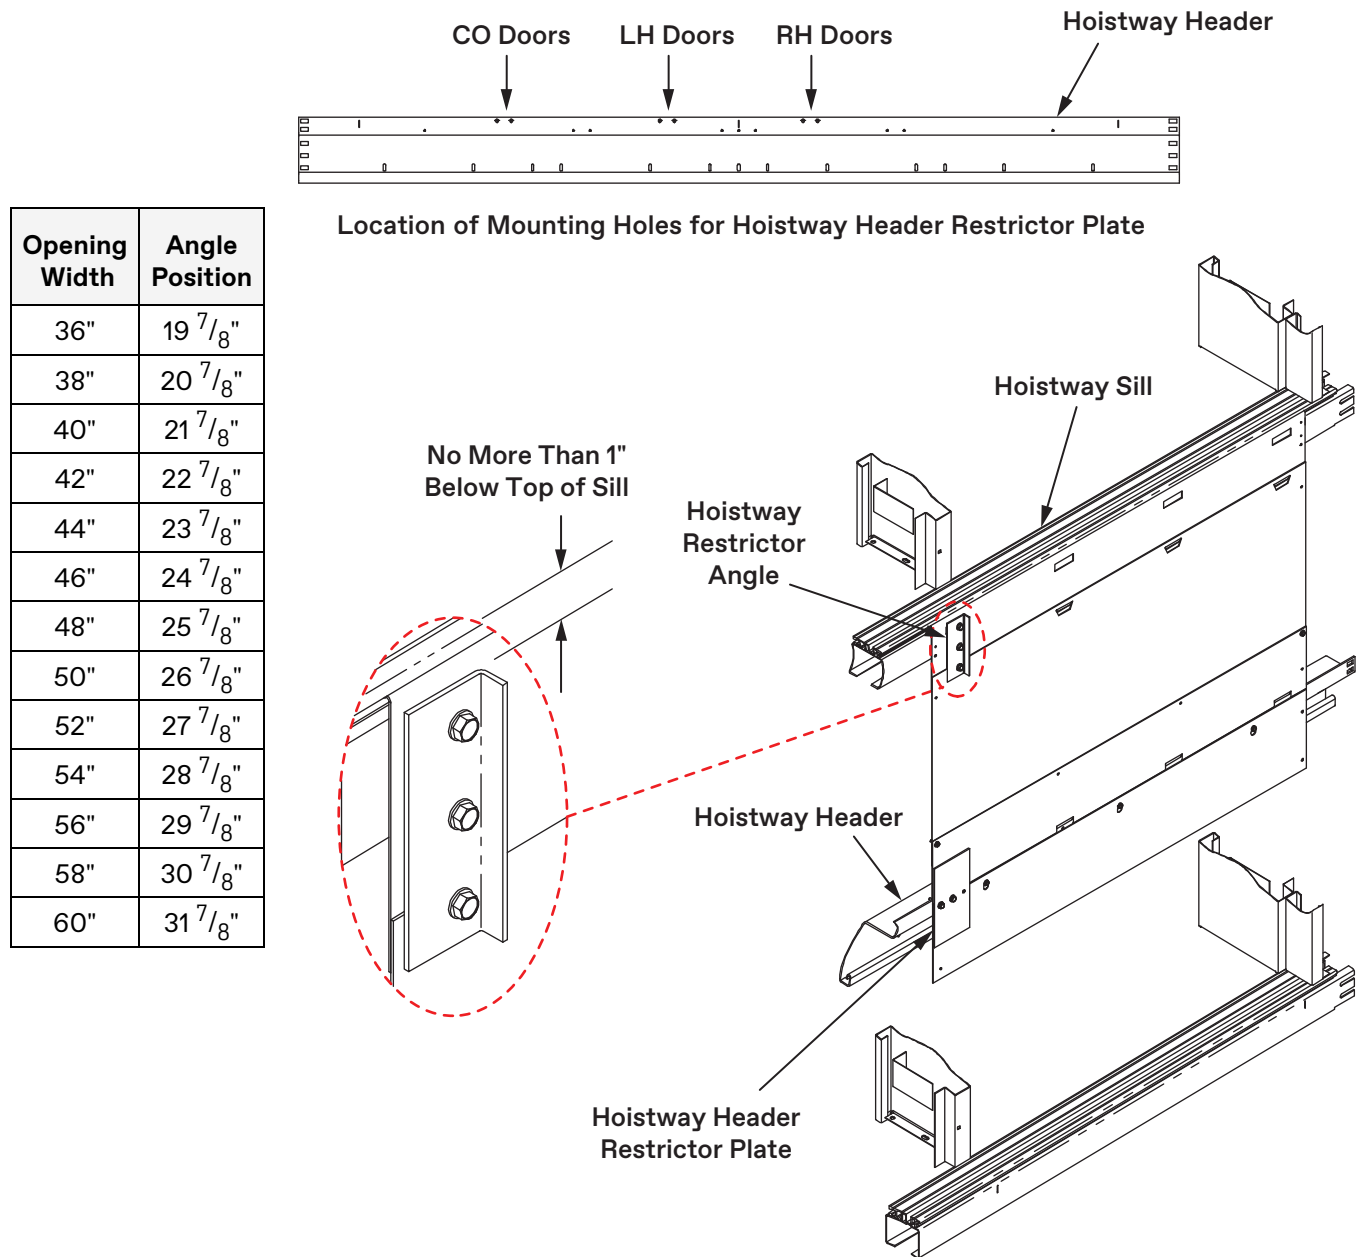

Figure 52 - Hoistway Restrictor Angle Positions
1. Mark the position of the hoistway restrictor angle. See Figure 52.